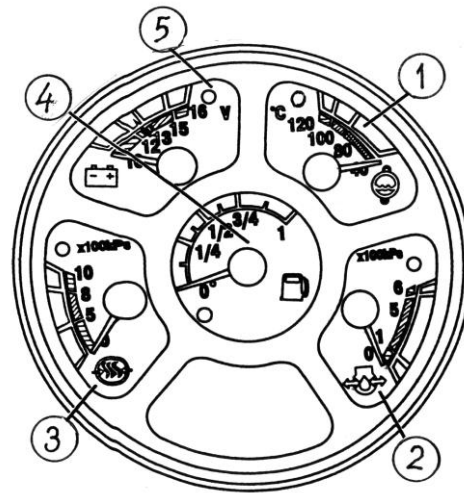

Fig. 9.
2. The temperature indicator (1), Fig. 9, operated jointly with the thermistor-type temperature sensor BK1 (ДУТЖ-02М, resistance range: 243...22.5 Ω).